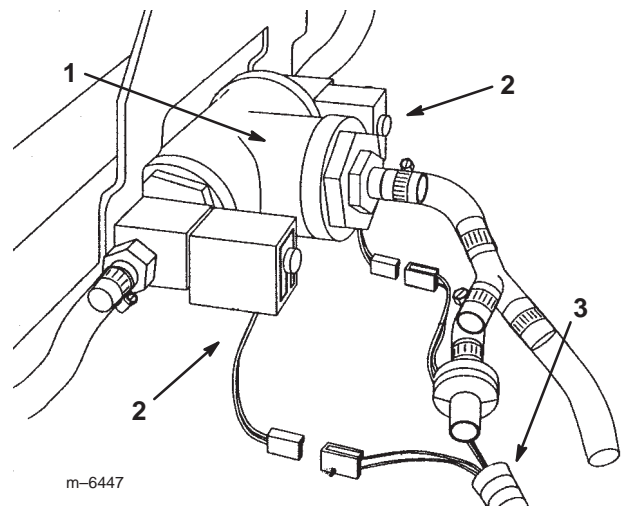

Figure 7
10. Plug the harness connectors into the boom solenoid assemblies. Plug the connector with the blue wire to the right solenoid; plug the connector with the yellow wire to the left solenoid (Fig. 7).